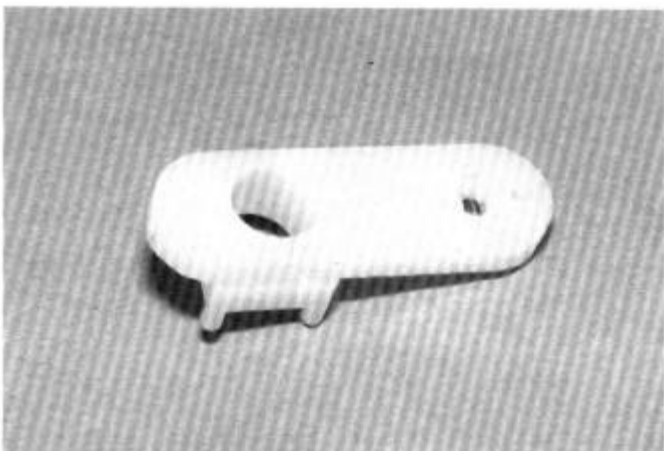

**FIG. 21**
□ **FIG. 21**—Now pop the linkage onto the balls as shown. Assemble the right hand side too.